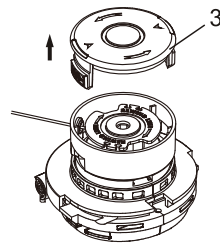

Fig. 15
2. While pressing both spool locking buttons, pull the spool cap (3) out of the spool housing (Fig. 15).